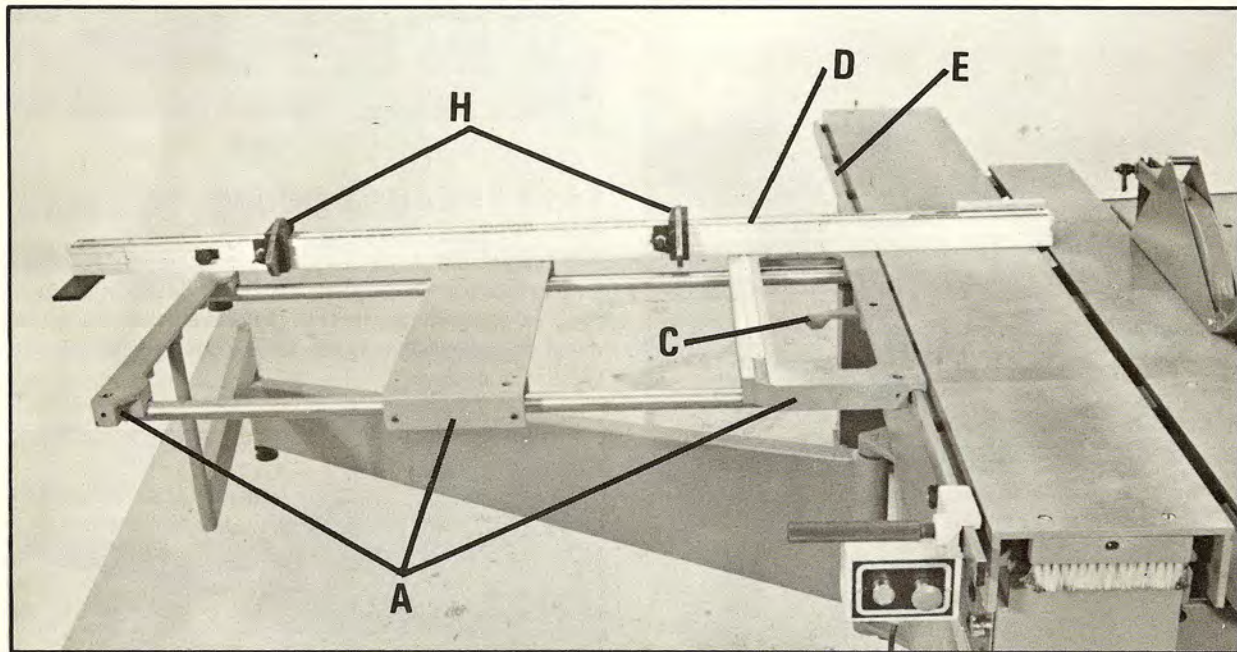
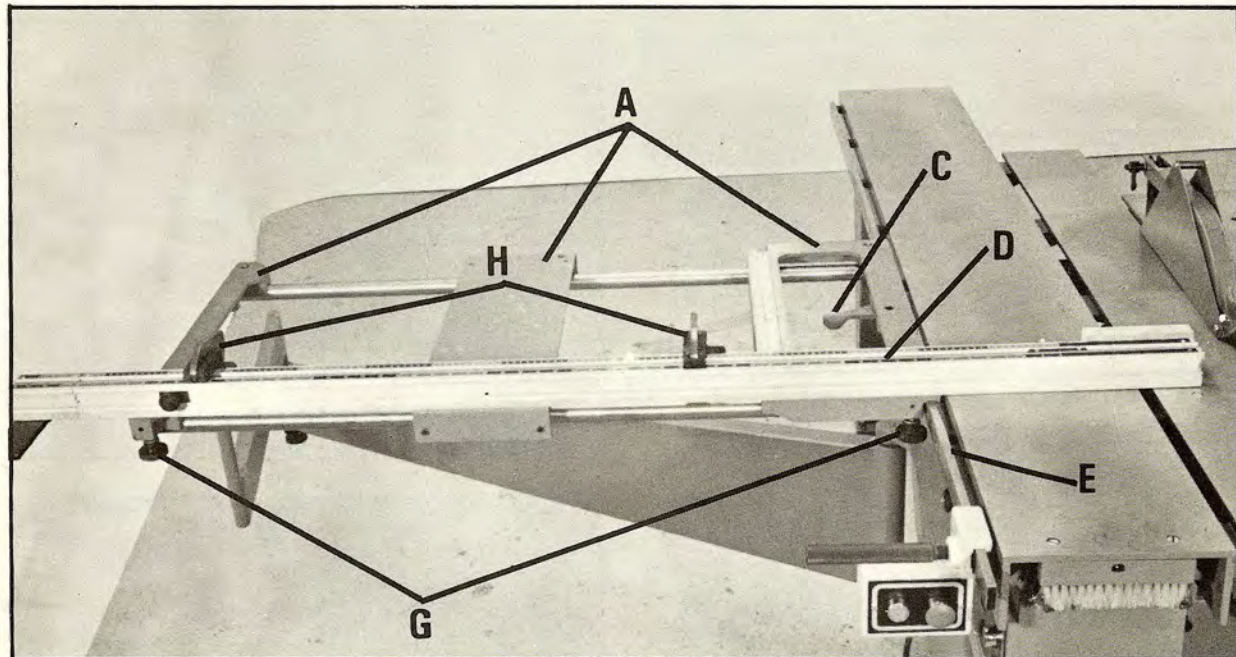

Fig. 45
Fig. 46
The complete sliding table extension assembly (A) Figs. 45 and 46, can be positioned anywhere along the length of sliding table guide (E). Loosen lock lever (C) Figs. 45 and 46, slide table extension (A) to the desired position on guide (E) and tighten lock lever (C).
For right angle cross-cutting operations, the cross-cut fence (D) can be assembled in either the rear position of the table extension as shown in Fig. 45 or the forward position as shown in Fig. 46. See also ASSEMBLING SLIDING TABLE EXTENSION AND CROSS-CUT FENCE.
When the cross-cut fence (D) is assembled in the rear position of the table extension as shown in Fig. 45, the table extension (A) should be clamped to the rear portion of table guide (E). The adjustable stops (H) Fig. 45, should be facing the front of the machine as shown. Maximum cross-cut capacity is obtained when the fence (D) is assembled in the rear position as shown in Fig. 45.
When the cross-cut fence (D) is assembled in the forward position of the table extension as shown in Fig. 46, the table extension (A) should be clamped to the forward position of table guide (E). The adjustable stops (H) Fig. 46, should be facing the rear of the machine as shown.
Whether using the cross-cut fence in the rear position or the forward position, it should be positioned the desired distance from the saw blade and securely clamped by tightening the two knobs (G) Fig. 46.